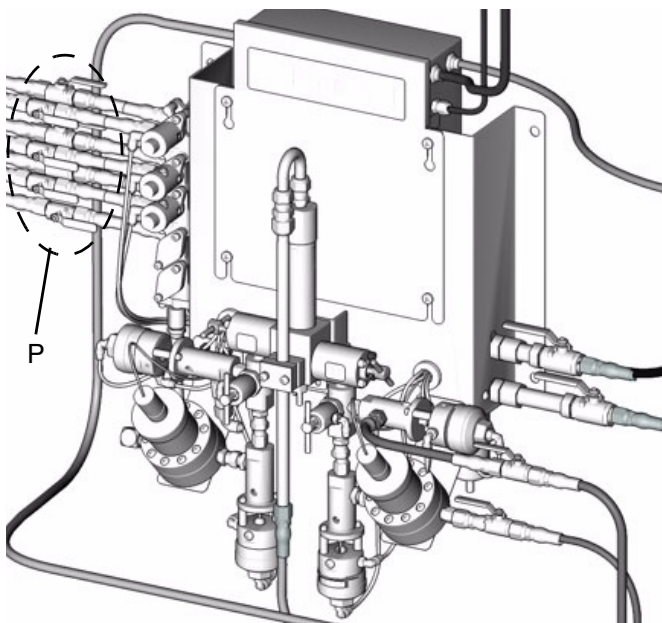

FIG. 6
To reduce the risk of injury, including fluid injection, you must install a shutoff valve (P) between each fluid supply line and the fluid manifold assembly. FIG. 6. Use the valves to shut off fluid during maintenance and service.